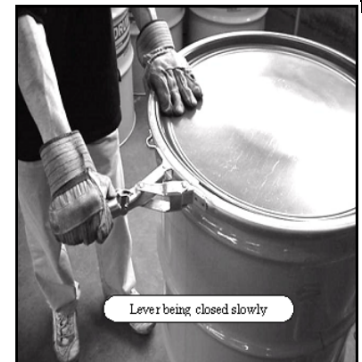

Figure 8
- CLOSE LEVERLOCK** –by slowly and cautiously pulling the LEVERLOCK so that the outer ring engages the cover / body juncture. Downward pressure along with tapping the outside of the ring may assist in an even closure (see Fig. 8).